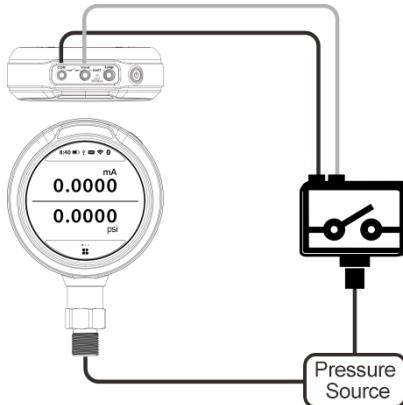

Figure 14 Calibrate Pressure Switch
- (1) The air and circuit connection between pressure switch and calibrator are shown in Figure 14 (in the Figure it is mechanical switch).